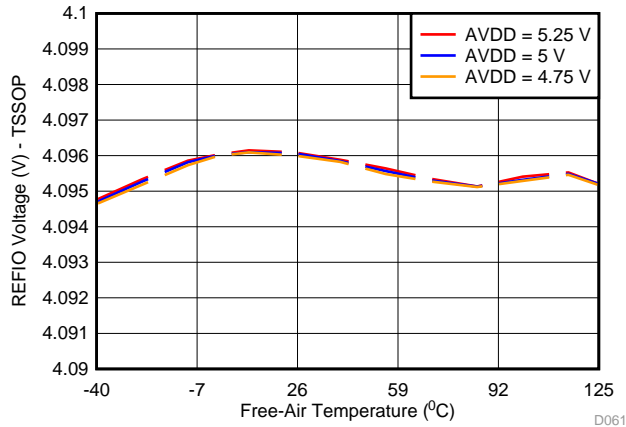
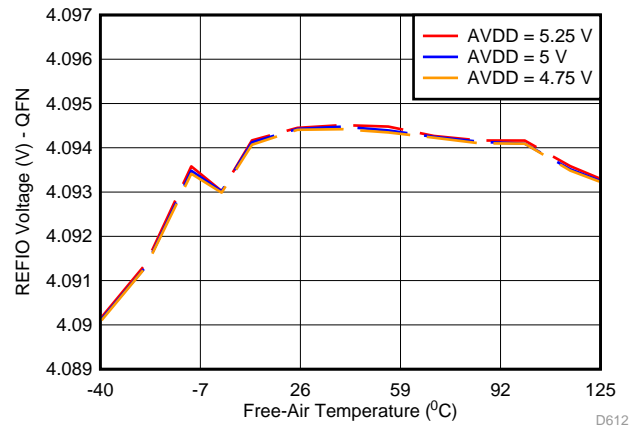
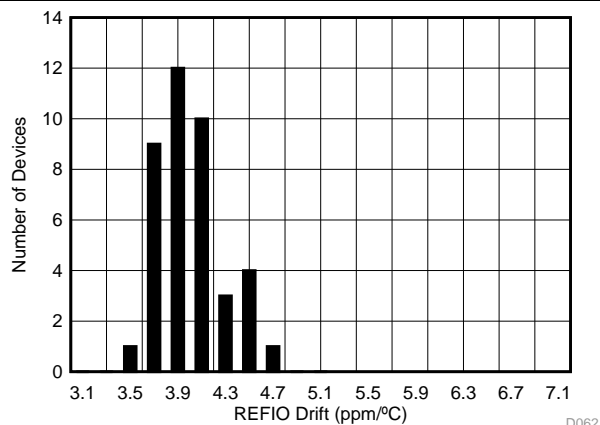
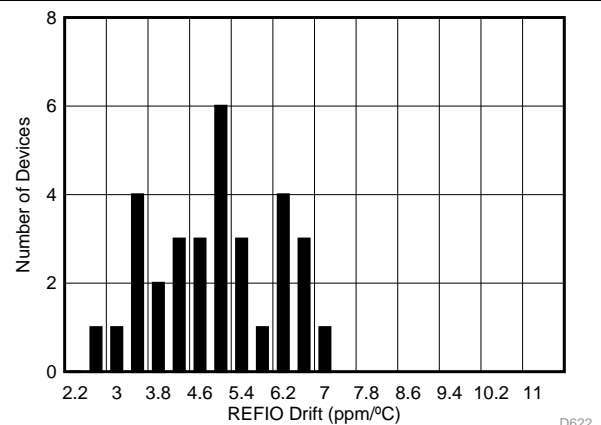

Figure 56. REFIO Voltage Variation Across AVDD and Temperature (PW Package)
Figure 57. REFIO Voltage Variation Across AVDD and Temperature (RUM Package)
Figure 58. Internal Reference Temperature Drift Histogram (PW Package)
Figure 59. Internal Reference Temperature Drift Histogram (RUM Package)
The internal reference is also temperature compensated to provide excellent temperature drift over an extended industrial temperature range of -40°C to $+125^{\circ}\text{C}$. Figure 56 and Figure 57 show the variation of the internal reference voltage across temperature for different values of the AVDD supply voltage. The temperature drift of the internal reference is also a function of the package type. Figure 58 and Figure 59 show histogram distribution of the reference voltage drift for the TSSOP (PW) and WQFN (RUM) packages, respectively.